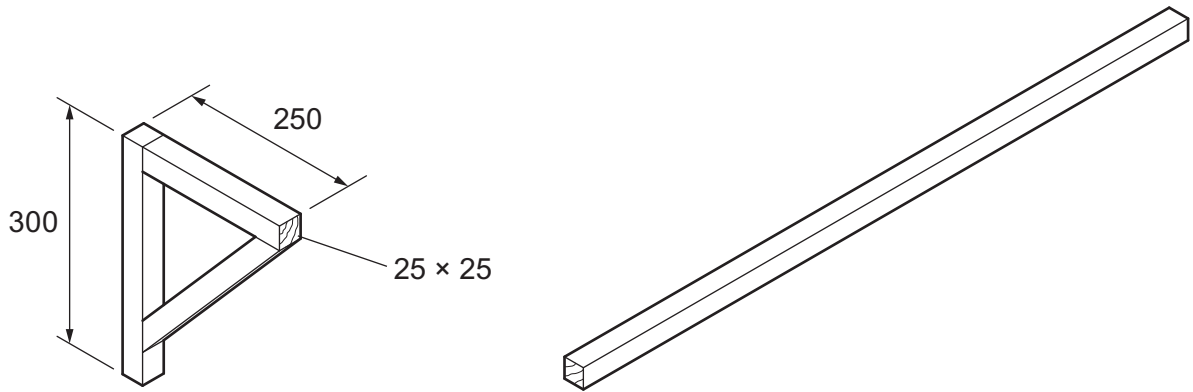

Fig. 4.1
- 4 Fig. 4.1 shows details of a shelf bracket and a length of softwood from which the bracket is made.
State **three** processes that need to be carried out to produce the shelf bracket in Fig. 4.1.